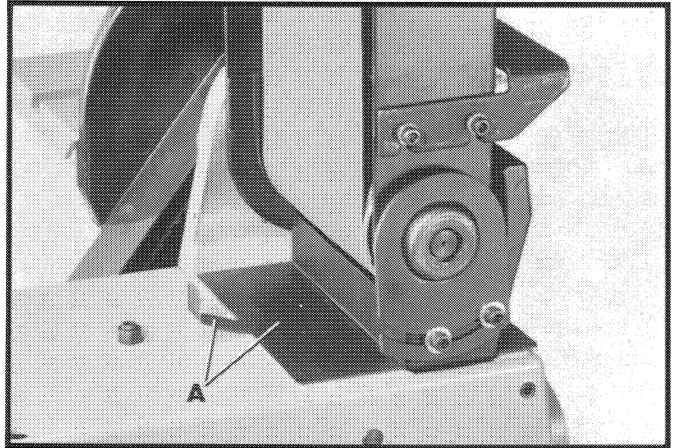

Fig. 37
2. If you are sanding on the belt, pull dust shield (A) Fig. 37, outward.